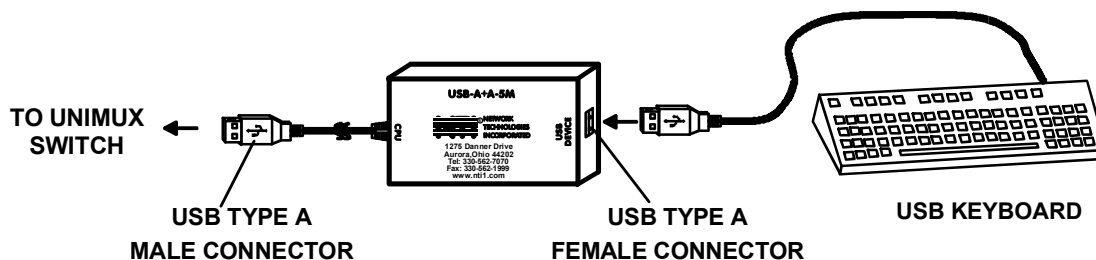

Figure 6- Use USB-A+A-5M to extend a device, or a computer
Note: If device cables are not long enough to reach the UNIMUX switch, they can be extended either 5 or 10 meters using either 1 or 2 NTI USB-A+A-5M Improved Active USB 5 Meter Extensions (see Figure 6)- purchased separately. Contact your NTI salesperson for more details by calling (800) 742-8324 (800-RGB-TECH) or (330) 562-7070 or visit our website at <http://www.networktechinc.com>.